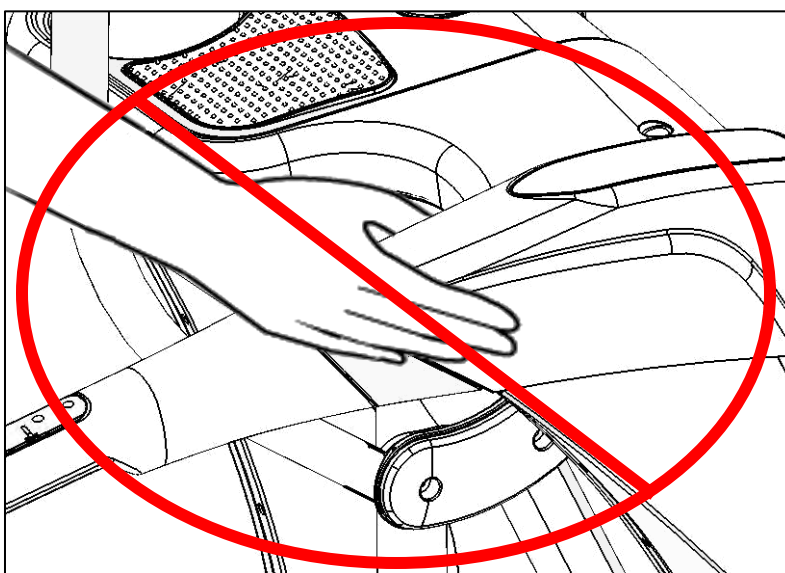

Fig 2
- Avoid placing hands on the upper side rail covers while elliptical is in operation. (See Fig 2)